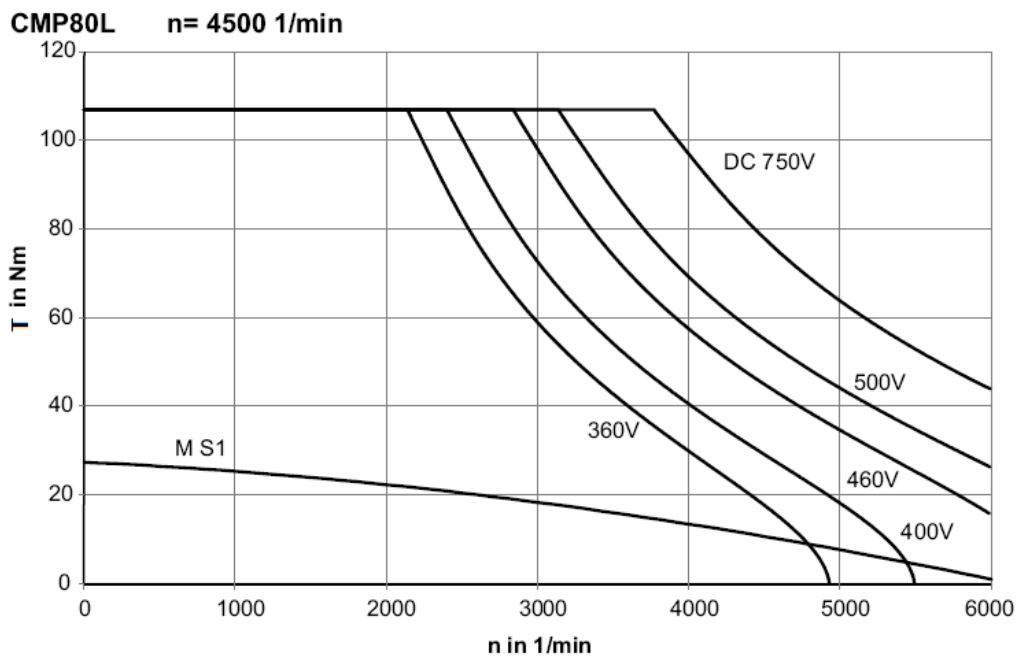

Figure 5
8. [2.5] The figure 5, below, illustrates the Torque/Speed curves of a specific type of motor, as you certainly remember from the lab classes.